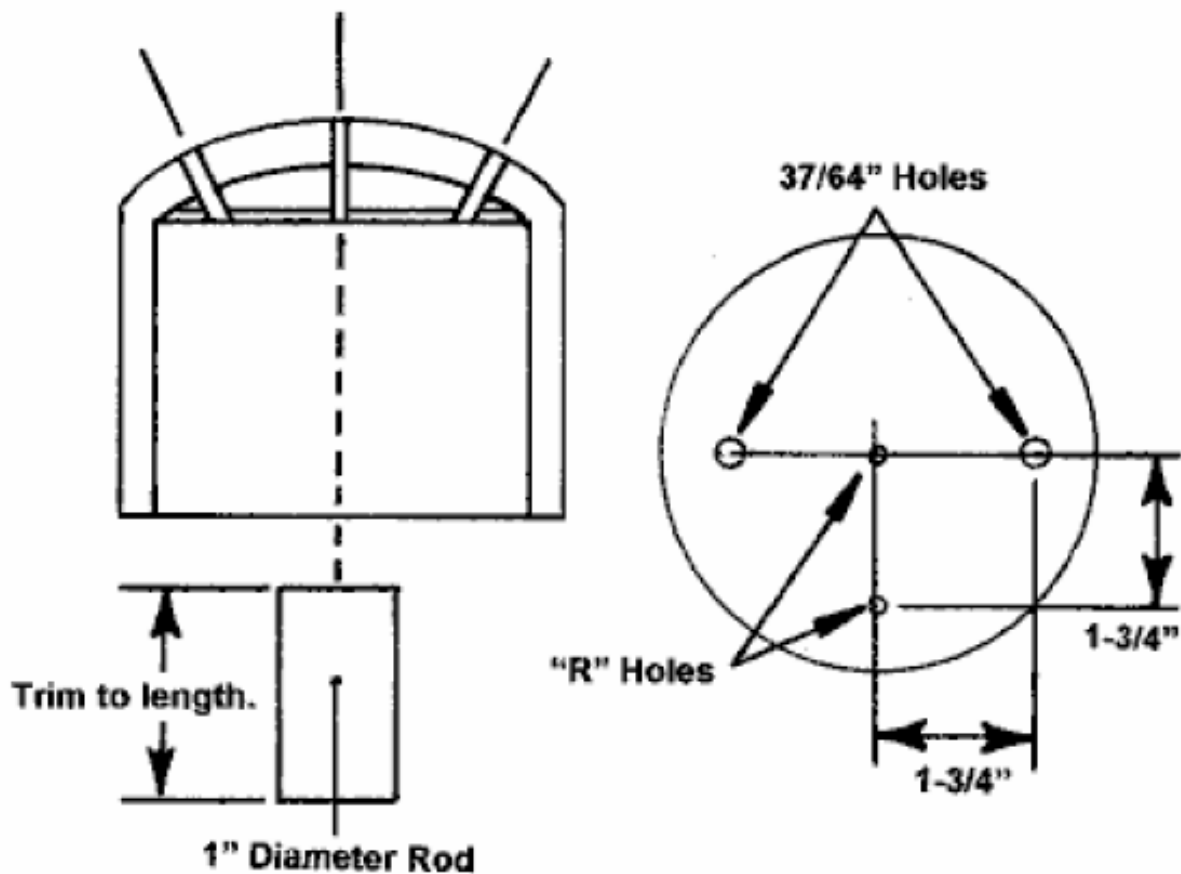

Figure 15: Unthreaded End Cap Details
1. Using a miter box or table saw to assure squareness, cut a spacer approximately 2" long from 1" diameter CPVC rod. Using an "R" size drill bit, drill a hole through the center of the rod its entire length, and parallel to its length. Also drill a hold through the center of the end cap with the "R" drill, as shown in Figure 15.
3. Temporarily thread the 35SS water level switch into the tapped hole, seating it firmly. Insert the switch power leads from inside the end cap through the drilled hole. Measure and record the distance from the inside surface of the end cap, as shown in Figure 15.
- When drilling holes in the following step 8, be sure to keep the drill bits squared with the curved outer surface of the unthreaded end cap. This places the axis of each of the three holes at an angle to the axis of the center hole as shown Figure 15.
8. Referring to Figure 15, drill two  $37/64$ " holes through the top of the unthreaded end cap, each located  $1-3/4$ " from the center hole in the cap. Be sure to keep the drill bit squared with the curved outer surface of the end cap.
Using an "R" size bit, drill a hole through the top of the end cap  $1-3/4$ " from the center hole in the cap as shown in Figure 15.